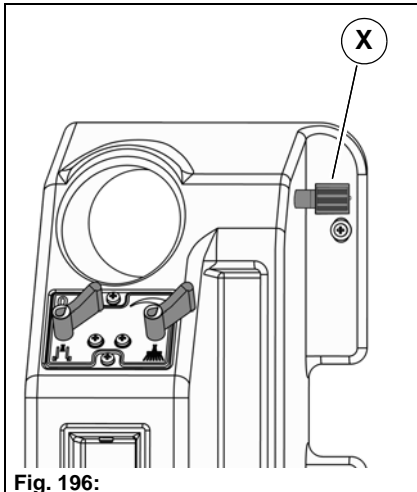

Fig. 196:
2. Raise the front tool carrier and fix it in the upper position with the lowering valve **Fig. 196-X**.
7. Open the lowering valve **Fig. 196-X** again.